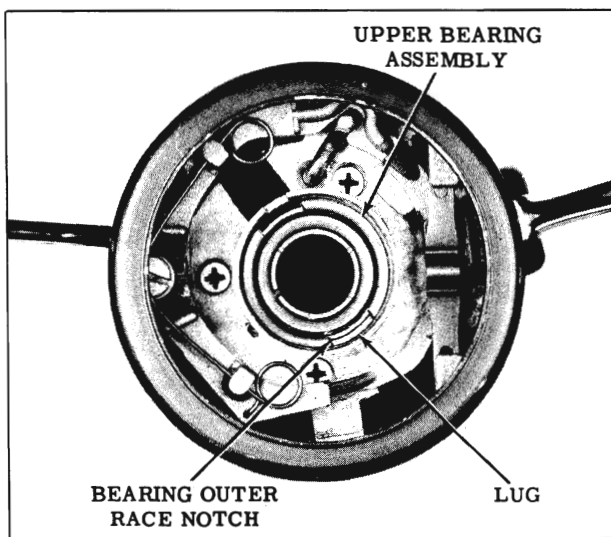

Fig. 4-284 Upper Bearing Position
1. Position upper bearing in actuator assembly (flange up) with one notch of bearing race aligned with opening inside of bore of bearing recess as shown in Fig. 4-284. Notches in